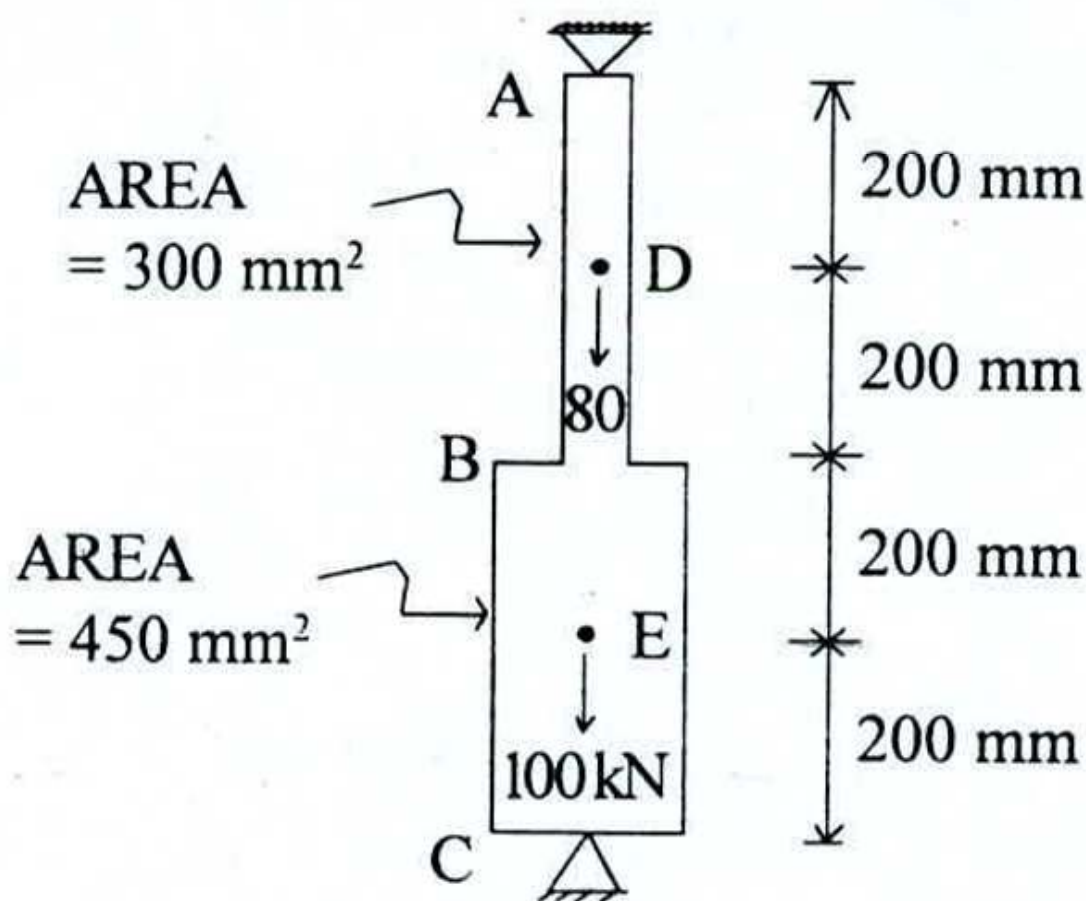

Fig. 6
- (c) A non-prismatic rod is attached between two supports as shown in Fig. 6. It is subjected to axial loads of 80 kN and 100 kN. Determine the support reactions and elongations. Take  $E = 200$  GPa.